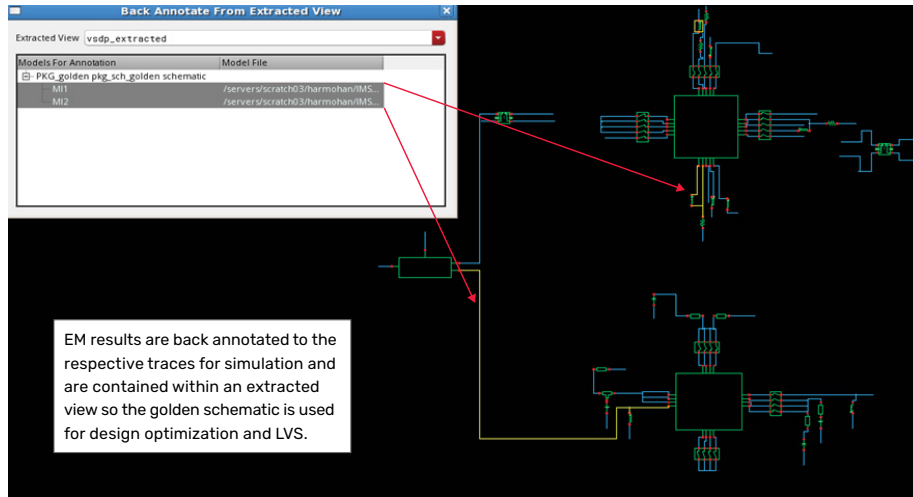

Figure 6: EM results back annotate to golden schematic cell view
- ▶ The hierarchy editor can mix and match views for easy and quick tradeoffs of effects on the circuit design. This functionality is illustrated in Figure 6, where the two yellow traces in the schematic are represented by the M1 and M2 EM results selected in the *Back Annotate From Extracted View* window.